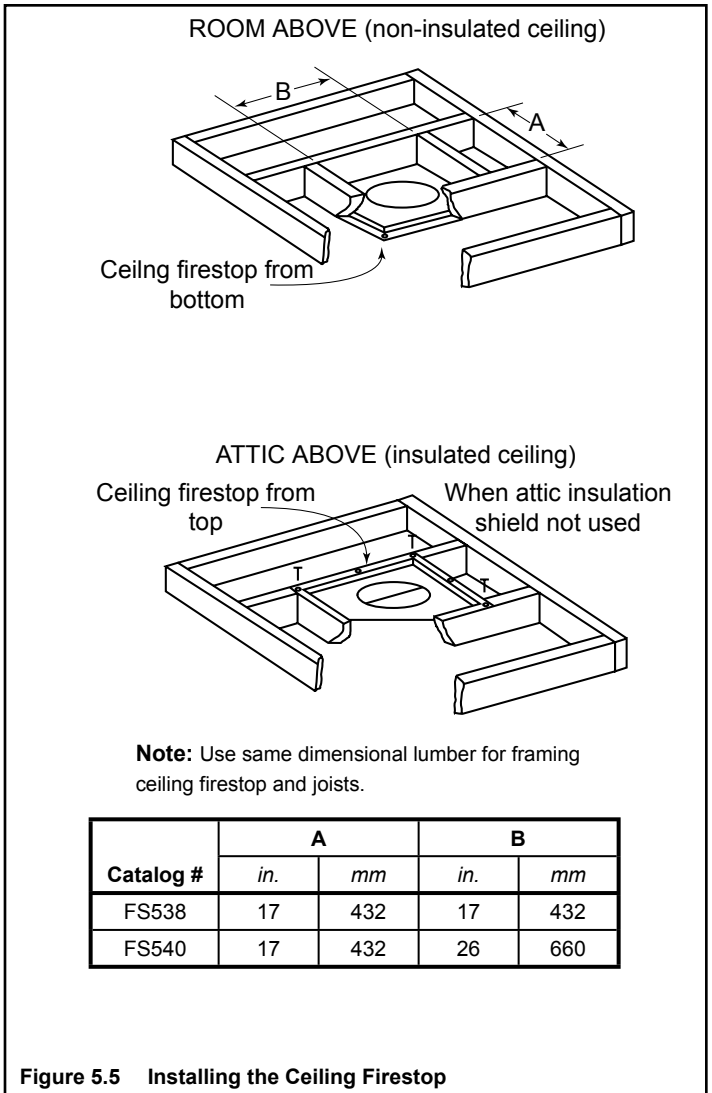

Figure 5.5 Installing the Ceiling Firestop
- Mark and cut an opening in the ceiling for the ceiling firestop being used. See Figure 5.5.
**Note:** The ceiling firestop MUST be nailed to the bottom of the ceiling joists EXCEPT when the space above is uninsulated and the attic insulation shield is not being used (see Figure 5.5). When the attic insulation shield is used the ceiling firestop may be above or below the joist of an insulated ceiling.